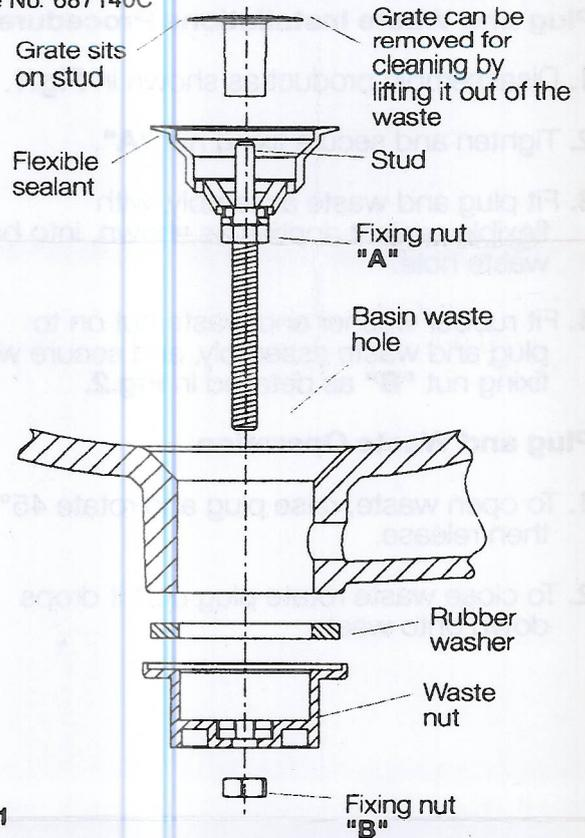

Fig. 1
1. Disassemble product as shown in **Fig.1**.